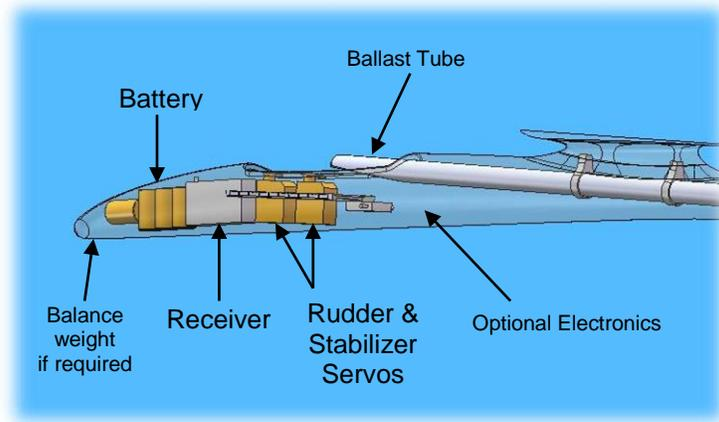

Figure 19: Shows the battery, receiver, and servo location
1. The battery is installed in the most forward location in the fuselage. See figure 19 below which shows the battery and receiver installation.
1. The receiver is installed behind the battery and in front of the servos as shown in figure 19 above.